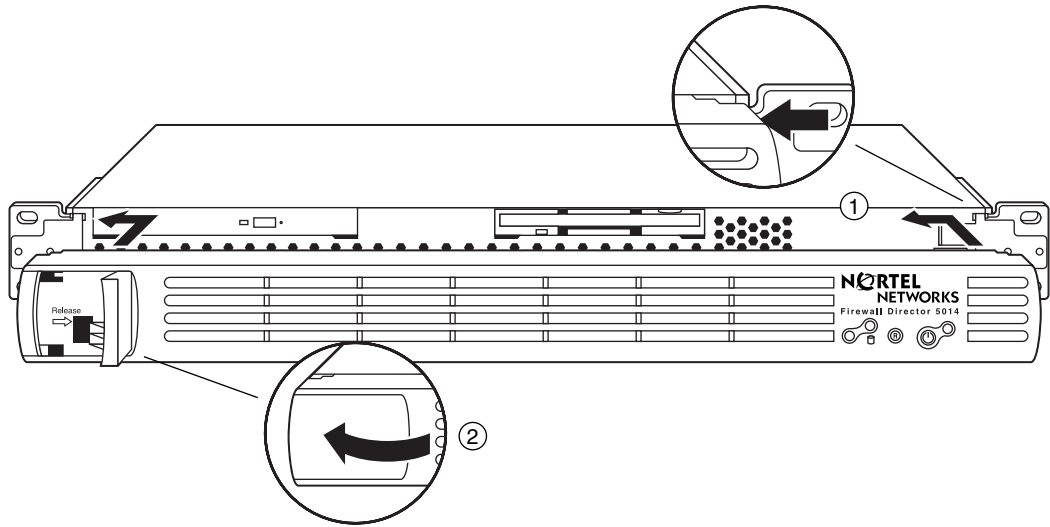

Figure 2 Installing the Bezel on the Firewall Director 5014
To remove the bezel off the Firewall Director 5014, open the flap (See ② in Figure 2) and slide the bezel to the right. Then, pull the bezel off the faceplate.
To install the bezel, slide the bezel on the face plate as shown in Figure 2 and follow the steps below:
2. **Slide the bezel on the face plate from right to left, until the edge of the bezel aligns with the edge of the face plate lengthwise. (See ① in Figure 2.)**
4. **Shut the flap. (See ② in Figure 2.)**